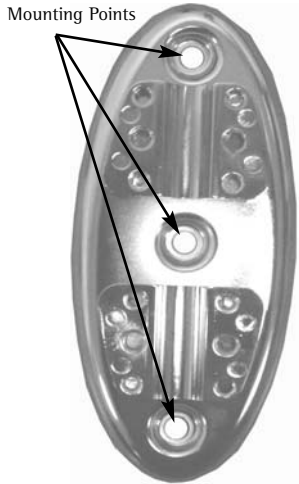

Figure 2. Flip-Down Base Installation\*
3. Mark, and then predrill the mounting holes (Figure 2). Use a 1/16" drill bit.
4. Line the FLIP Mount up with the three mounting holes and use three (3) #14 x 7/8" wood screws and attach the FLIP Mount to the underside of the cabinet (Figure 2).